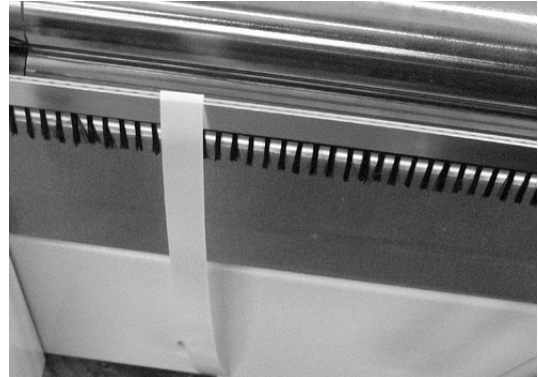

Figure 12
2. Place strap over static brush in appropriate location. (Figure 12)